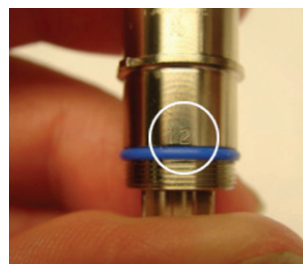
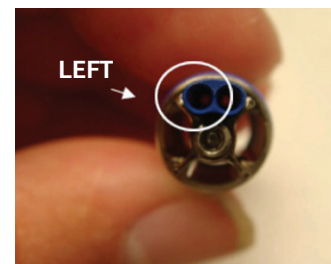

Figure 18: Engraved pin number
Figure 19: Inserting contacts into housing
- Using the pin numbers engraved on the connector piece as a guide (Figure 18), insert each contact into the housing position listed in the following table; twist the contact as needed to align the insulator (Figure 19).